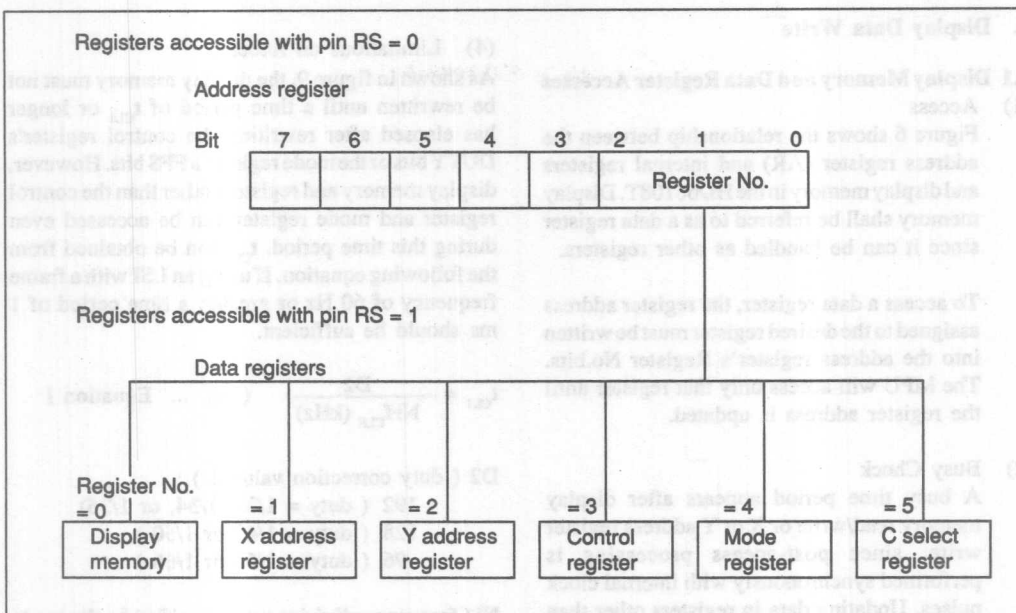

Figure 6 Relationship between Address Register and Register No.
Figure 6 shows the relationship between the address register (AR) and internal registers and display memory in the HD66108T. Display memory shall be referred to as a data register since it can be handled as other registers.